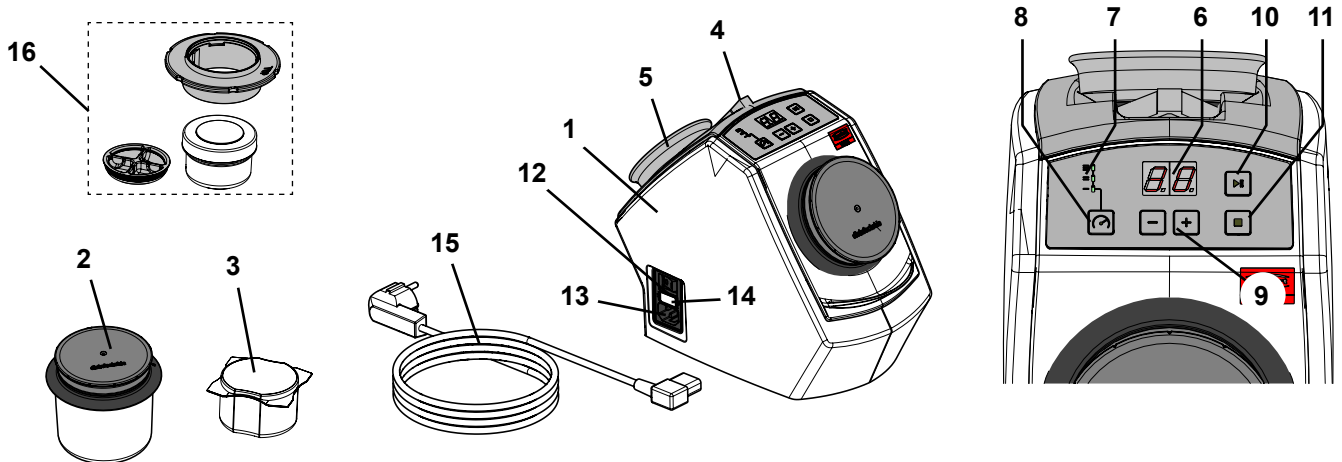

Fig. 1
- ▶ The retaining magnet (Fig. 1, Pos. 5) contains lead
- ⇒ Place the tweezers supplied with the unit and the retaining magnets in the holder on the back of the appliance (Fig. 1).
- ⇒ Choose a power cable (15, Fig. 1) with the proper plug for your mains supply.
- ⇒ Connect the power cable (13, Fig. 1) to the power supply.
- ⇒ Turn on the appliance at the mains switch (12, Fig. 1).
- ⇒ Fill the cleaning beaker (2, Fig. 1) with 75 g cleaning pins (corresponds to one packaging unit).
- ⇒ Fill the SYMPRO mini cup (accessory) (16, Fig. 1) with ~ 5 g cleaning pins